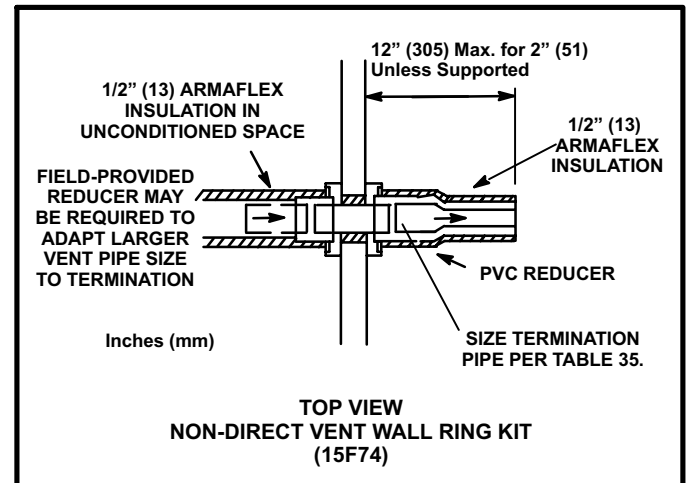

FIGURE 38
2. On field supplied terminations for side wall exits, exhaust piping should extend a maximum of 12 inches (305 mm) beyond the outside wall, unless support is provided in the horizontal section. See figure 38.